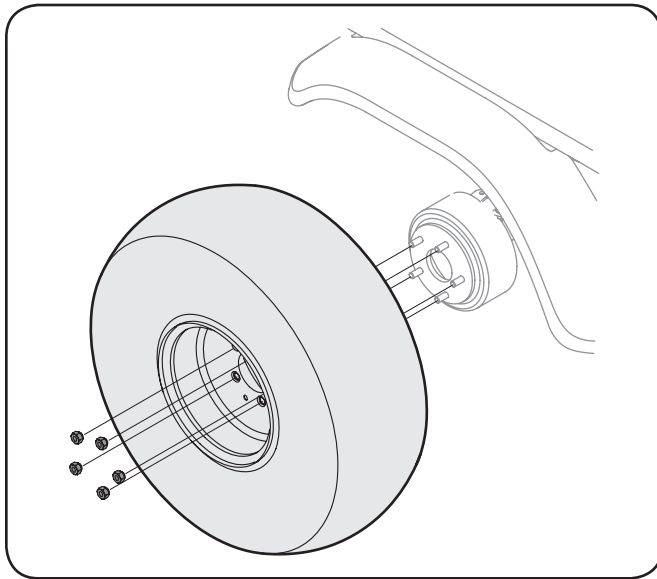

Figure 6-3
3. Loosen but do not remove the five lug nuts from the axle hub. See Fig. 6-3.